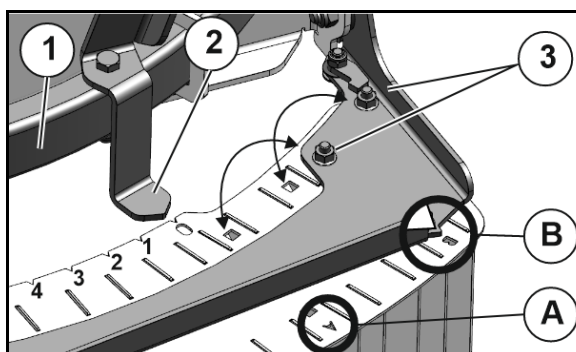

Fig. 68
2. Push the multi-disc block on the guide bar (Fig. 68/1) until the pointer (Fig. 68/2) is positioned at the value to be set from the setting chart.